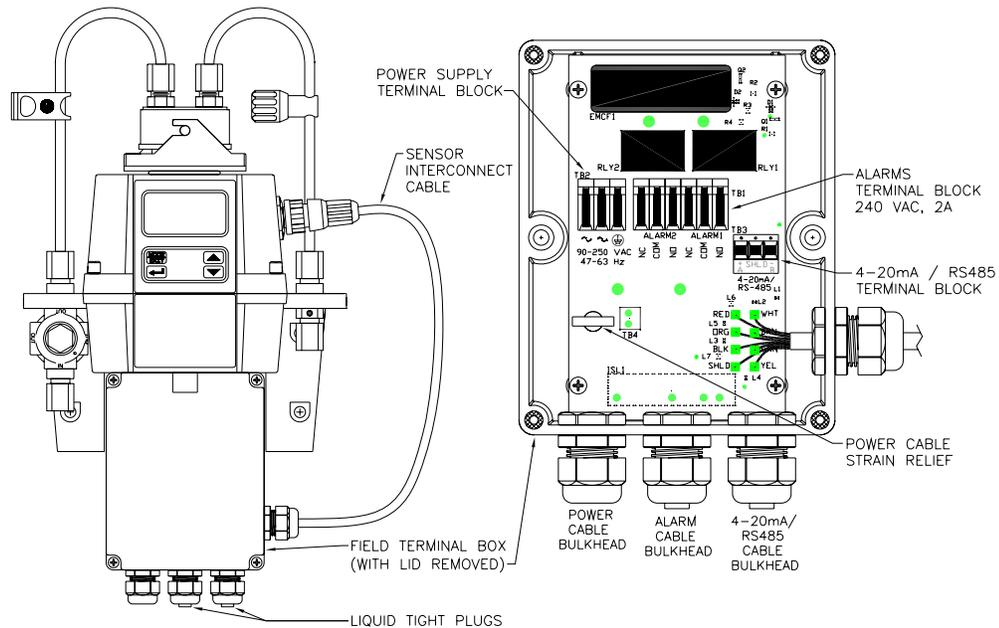

Figure 5: Electrical Connections for the Instrument
All of the electrical connections to the instrument are made through the field terminal box, which should be located directly under the sensor portion of the instrument. The connections are labeled within the terminal box and are self-descriptive (see Figure 5). Please follow all local and government recommendations and methods for installation of electrical connections to and between the instrument and other peripheral devices.
3.3.1 Power: The instrument is equipped with a 100-240 VAC, 47-63 Hz switching power supply; please verify that the line voltage falls within these specifications. It is recommended that a circuit breaker be placed prior to the power connection to allow for service. While making connections, refer to Figure 5. **The TB500 is not supplied with a power cord.**